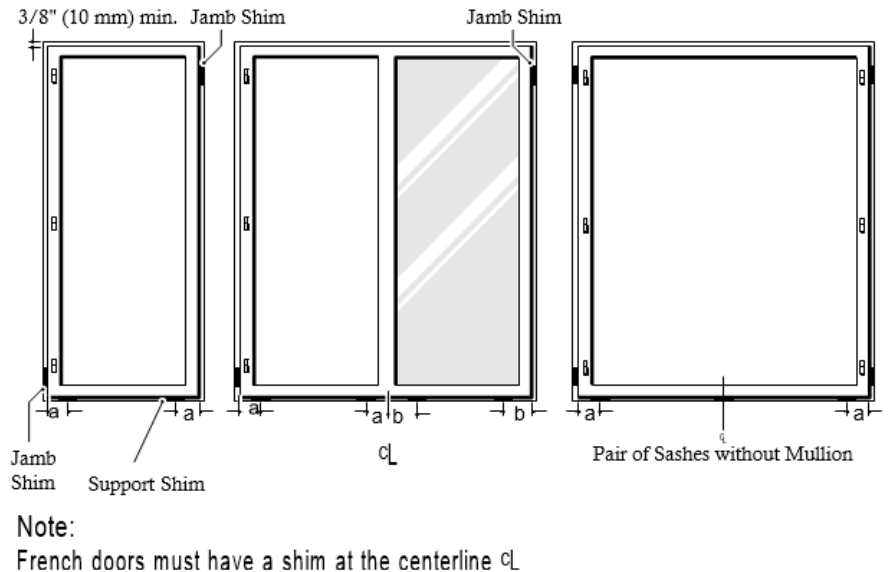

Figure 4-11. Where to put the frame support shims and jamb shims
- 4.4 Shim sill of frame approximately 2 1/2" from the corners and on both sides of any mullions with 4" x 1 1/2" shims (See fig. 4-11). Adjust the height of the shims to obtain a level sill, ensuring you have a 3/8" gap at the head (inter-story deflection not to exceed $\pm 3/8"$).